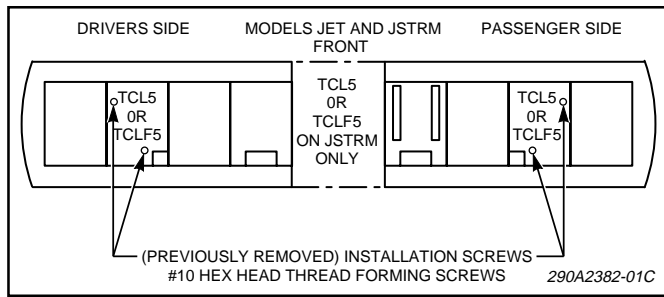

Figure 1.
2. Locate and remove the two installation screws (#8 hex hd. thd. frm.) provided on the light bar option mounting plate (see figure 1). Place the adaptor plate (with PEM studs) in position and secure with two #8 hex hd. thd. frm. screws previously removed.